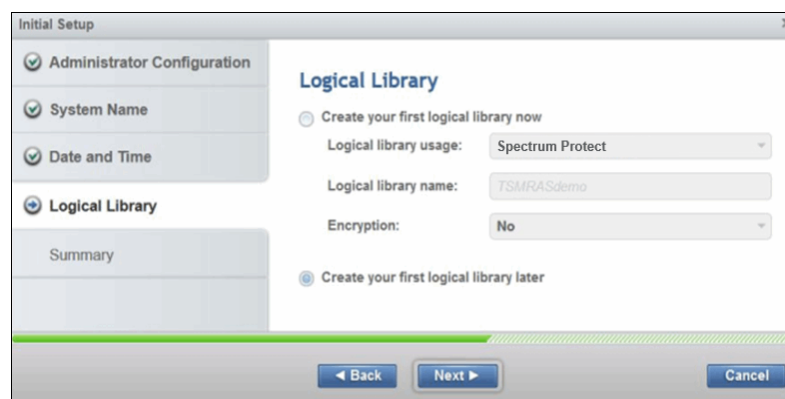

Figure 4-7 Logical libraries
3. Use the window that is shown in Figure 4-7 to configure a logical library, or you can skip this step and configure the logical library later.